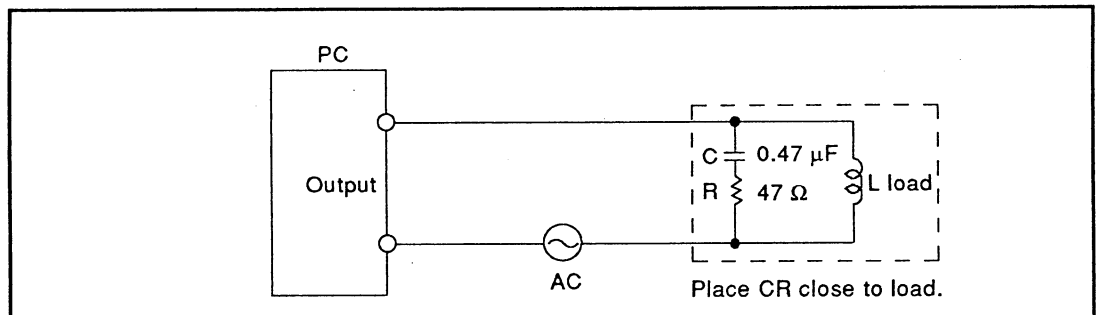
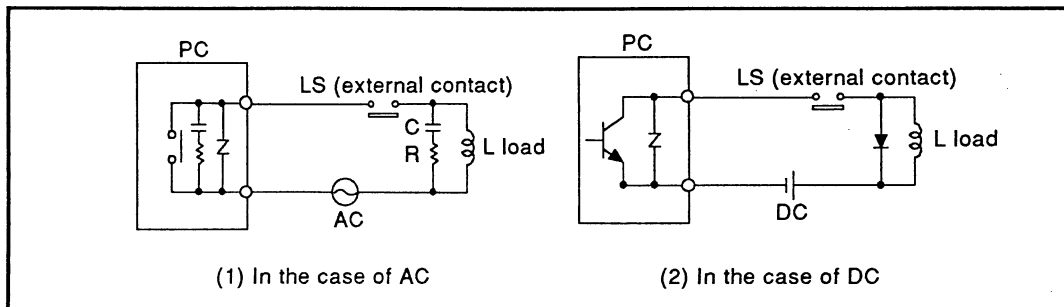
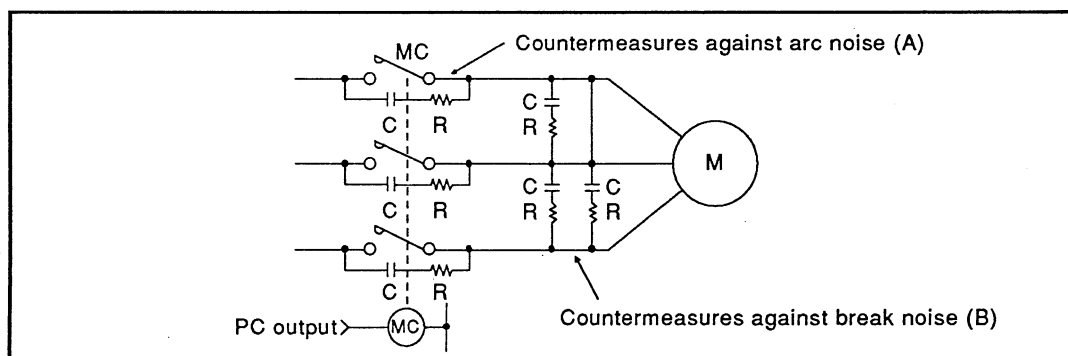

Fig. 6.8 Countermeasures Against AC Induction Load Noise
Fig. 6.10 When Opening and Shutting a Load at the External Contact
Fig. 6.11 Countermeasures Against Large-Capacity Load Noise
- 1) In the case of AC inductive load, connect CR surge suppressors to both ends of the load. Use a CR surge suppressor of  $0.5 \mu\text{F} + 47 \Omega$  for 100 VAC, 200 VAC, and 400 VA. If this CR surge suppressor is not connected to the position closest to the load, it will have no effect (See Fig. 6.8).
- 3) When the load to be connected to a PC output is opened and shut at the external contact, be sure to take the same countermeasures in Figs. 6.8 and 6.9, regardless of the presence or absence of noise countermeasures on the PC side (See Fig. 6.10).
- 5) Connecting CR surge suppressors to both ends of the contact is effective as a countermeasures against arc noise during contact switching of magnetic contactors. Be alert for leakage current by the CR surge suppressor circuit even when the contact is open (See (A) in Fig. 6.11).
- 6) If the break noise of the motor and transformer create problems, connect a CR surge suppressor between the phases (See (B) in Fig. 6.11).
When a device is turned ON and OFF, an error may occur, stopping the PC. Take the anti-noise countermeasures explained under "Output device" earlier in this section. The countermeasures given in Figs. 6.8 and 6.9 are normally effective. If a surge suppressor and a diode are not installed in the position closest to the load, it will have no effect. In the case of a mass load, take the countermeasures given in Fig. 6.11. Faulty connections, such as a slack input line, disconnections, faulty ground contacts, mixed contacts and input devices, etc. are considered as causes of problems that occur which synchronize with the operation of other devices. Therefore, check them very carefully.